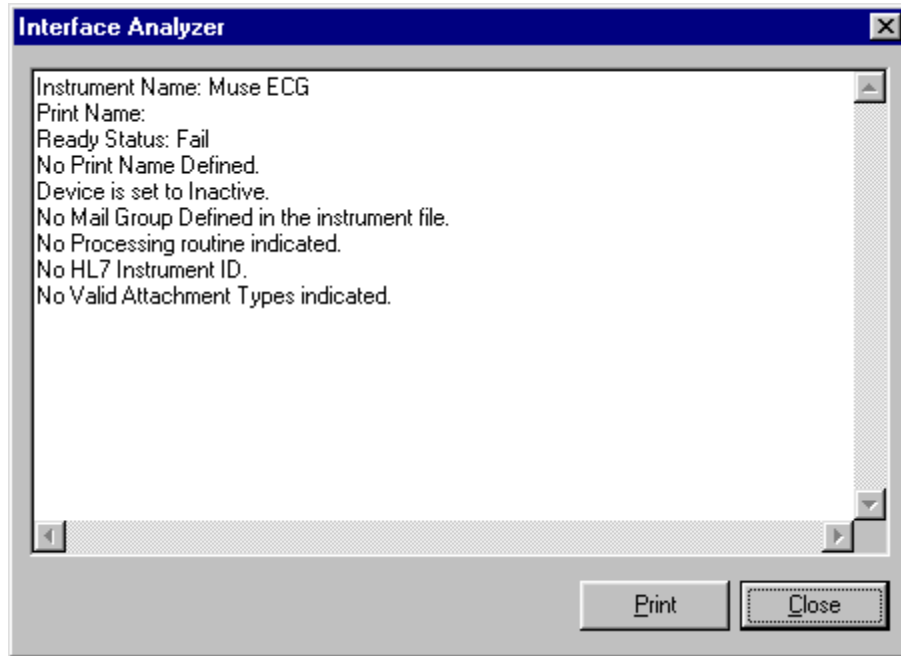

Figure 6-6
2. Select the instrument that you want to analyze. Click **Analyze**. A window similar to Figure 6-6 is displayed. This window indicates the ready status of the instrument and lists other information as well.
After you complete the edits, if you entered the name in upper case, the procedure name that you just entered is displayed in title case, Pacemaker Follow-up, (the first letter of every word is capitalized), in the left side of the CP Manager window. See Figure 6-6.